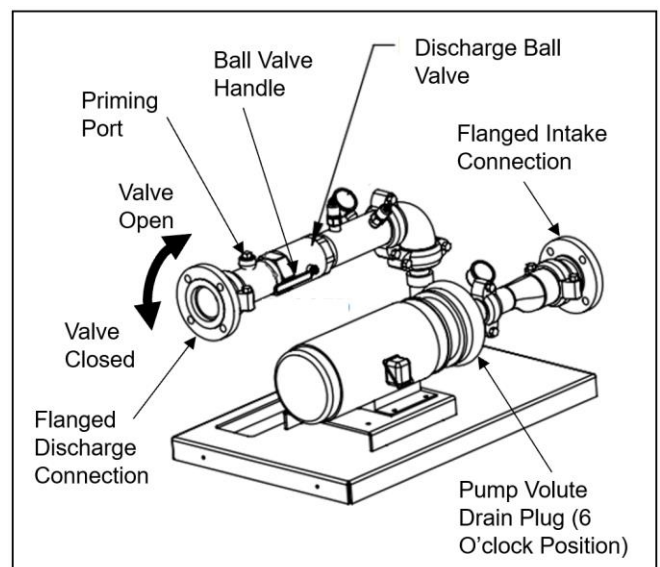

Figure 15-3. Pump Drain And Priming Ports.
4. Verify that the $\frac{3}{4}$ NPT plug in the Priming Port on the intake pipe, and the lowest Pump Drain Port plug on the pump volute (at 6 o'clock position) are installed and tight. See Figure 15-3.